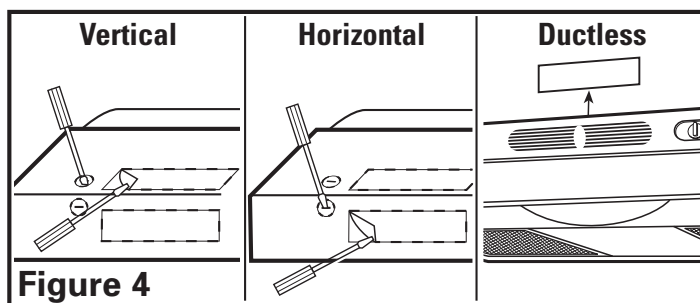

Figure 4
- Horizontal or Vertical** - Remove the appropriate square knockout by inserting a screw driver under the edge and break the tabs holding it in place. Peel back with pliers (**Figure 4**).
- Ductless** - Lift up and remove the hood's vent insert located behind the grill, exposing the front air slots. Do not use a screwdriver or any other object that could scratch the hood (**Figure 4**).
- Determine where the electrical service will enter the hood and remove the appropriate electrical knockout by inserting a screw driver into the slot and rocking back and forth until the knockout comes loose (**Figure 4**).
NOTE: FOR DUCTLESS INSTALLATIONS ONLY, if you did not already do so in the earlier steps, remove the vent insert from behind the grill on the outside of the hood (**Figure 4**).